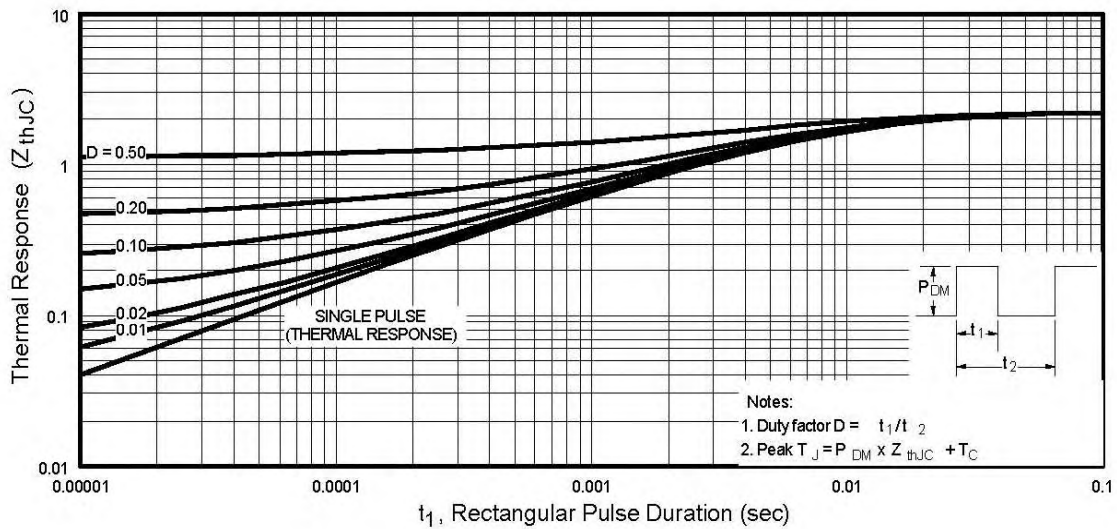

Fig 11. Maximum Effective Transient Thermal Impedance, Junction-to-Case
- ① Repetitive rating; pulse width limited by max. junction temperature. (See fig. 11)
- ② Starting $T_J = 25^\circ\text{C}$, $L = 3.6mH$